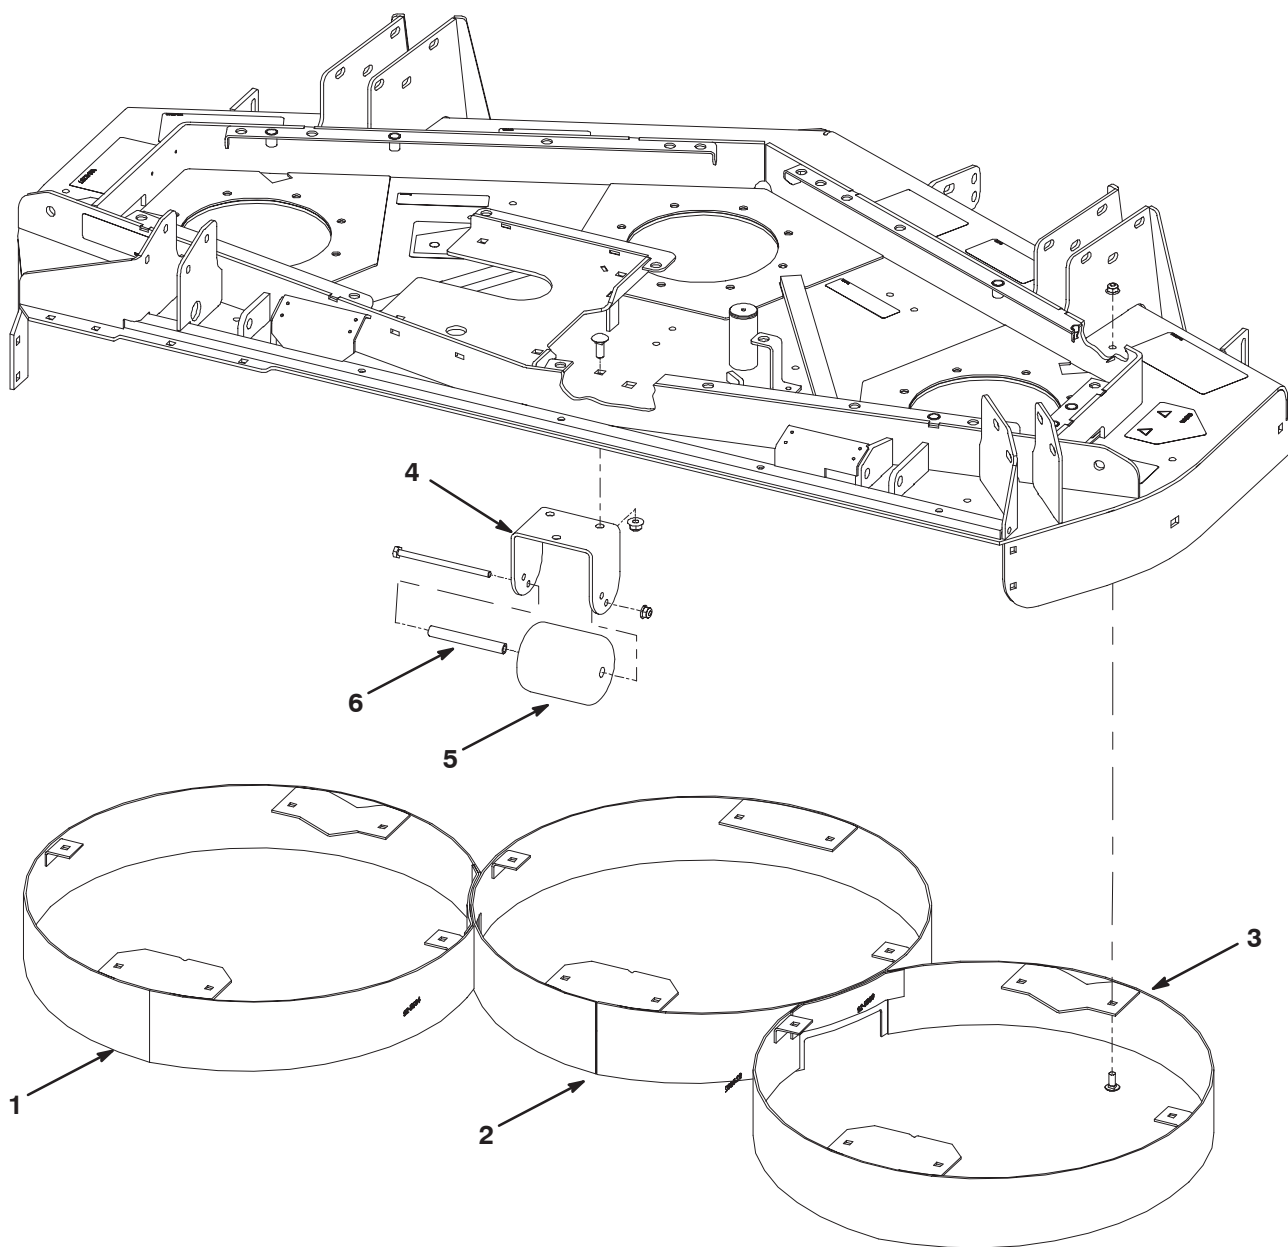

Figure 2
7. Position the right, center and left recycler chambers under the deck, aligning the mounting holes, as shown in figure 2.
8. Secure the chambers to the deck with 5/16 x 3/4 in. carriage bolts and nuts. The nuts are to be positioned outside the deck (Fig. 2).
9. Mount the roller bracket to the underside of the deck with (3) 5/16 x 1 in. carriage bolts and nuts (Fig. 2).